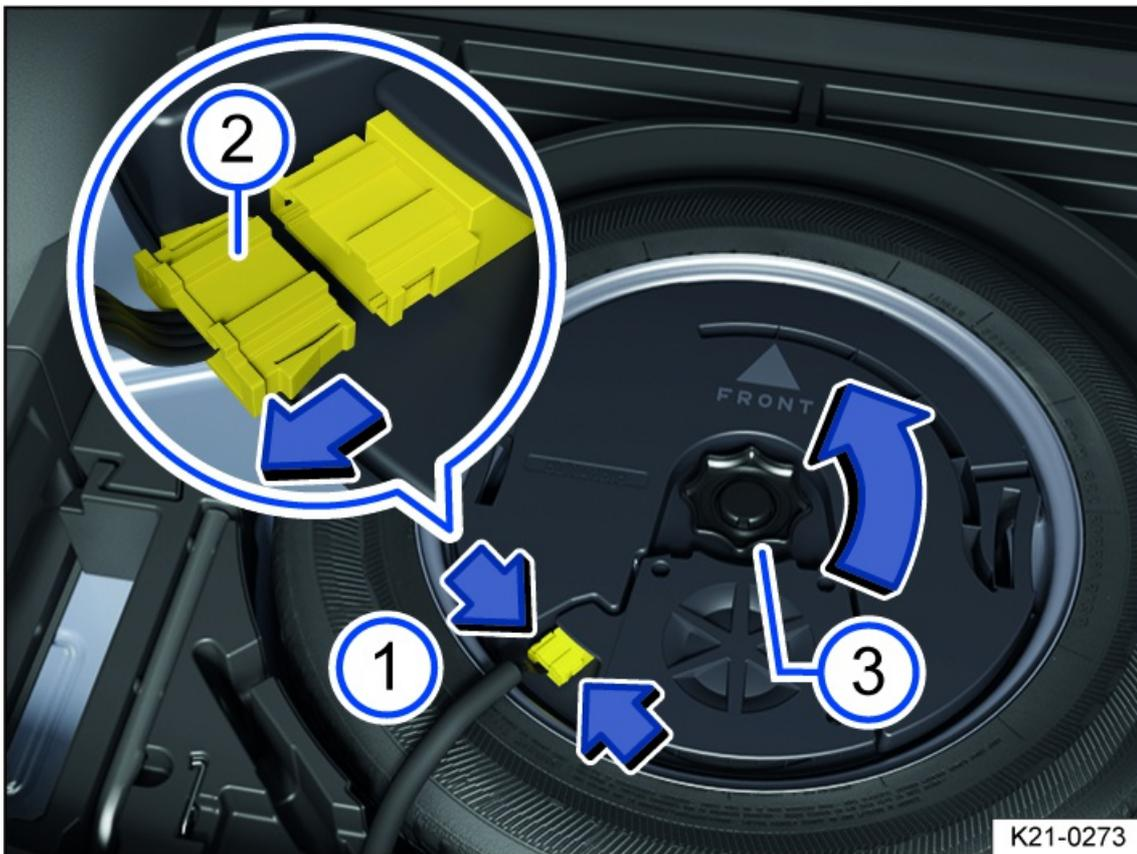

Fig. 178 In the luggage compartment: removing the subwoofer (version 1).
3. To release the connector, press the *fig. 178* lugs together (arrows ①).
4. Remove the connector *fig. 178* in the direction of the arrow and set the removed wire to the side.
5. Unscrew the handwheel *fig. 178* in the direction of the arrow.
2. Push the connector *fig. 178* in until you hear it click into place.
3. Turn the handwheel *fig. 178* on the threaded pin in the opposite direction to the arrow until the subwoofer is securely fastened.